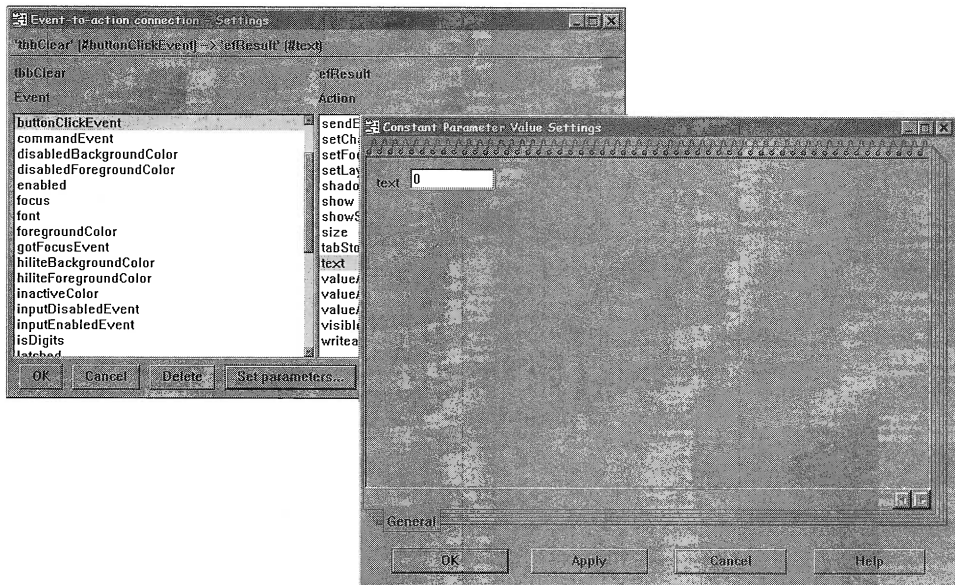

Figure 85: Setting connection parameter
- ❑ Enter a **0** (zero) in the **text** entry field and select the **OK** button at the bottom of the dialog as shown in Figure 85.